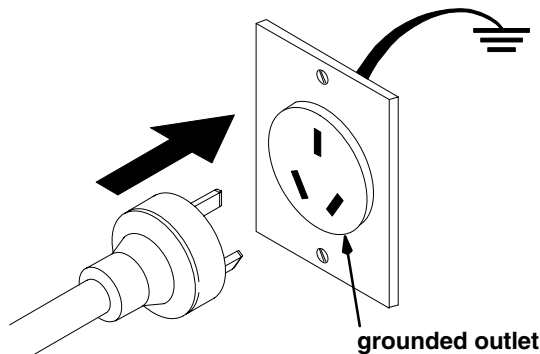

Fig. 2
- This equipment requires a 240V AC, 50/60 Hz, 8A circuit with a grounding receptacle. See Fig. 2.